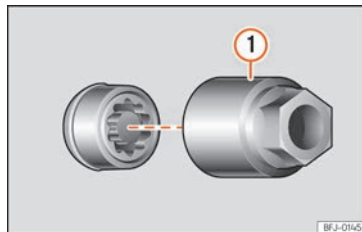

Fig.74 Anti-theft wheel bolt with cap and adapter.
- Insert the special adapter »» » Fig.74 ① (vehicle tools) onto the anti-theft wheel bolt and push it on as far as it will go.